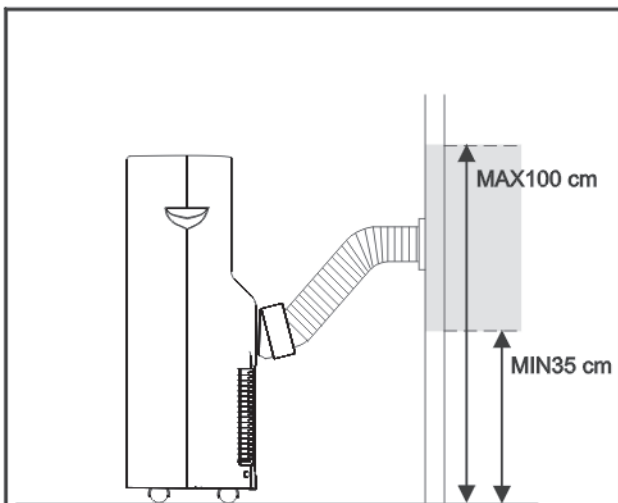

Fig. 3
- Insert the other end of the exhaust hose to the flange previously fit on the wall as shown in Fig.3.